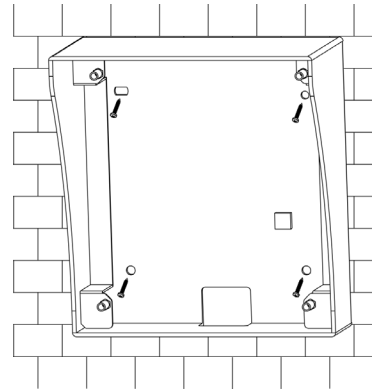

Figure 1
- Install metal bracket into the groove on wall. At spot 1 fasten screw (ST3×18 Cross recessed countersunk head tail tapping screws--- galvanizing white), and fix metal bracket on wall. See Figure 1